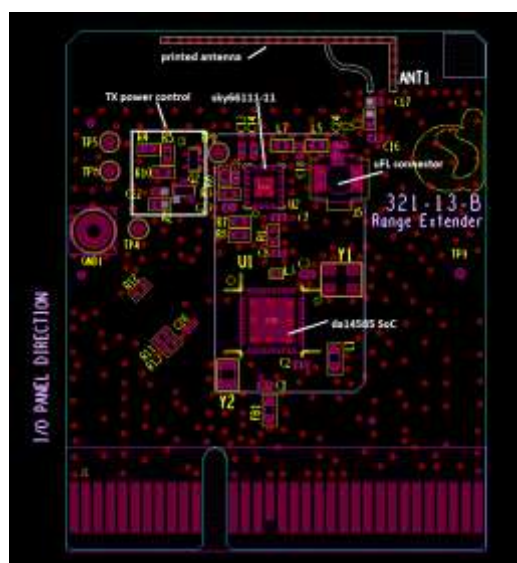

Figure 4: Layout of the DA14585 Range Extender daughterboard
- Complies to Bluetooth v5.0, ETSI EN 300 328 and EN 300 440 Class 2 (Europe), FCC CFR47 Part 15 (US) and ARIB STD-T66 (Japan)
- On-board printed inverted F-type antenna (Figure 4)
- U.FL connector for conducted measurements (Figure 4)
The system is powered via the Debug USB port (J12). The daughterboard can also be independently programmed, using an external battery connected on the board coin cell connector (see Section 5 for more details). The layout and main features of the daughterboard are shown in Figure 4.